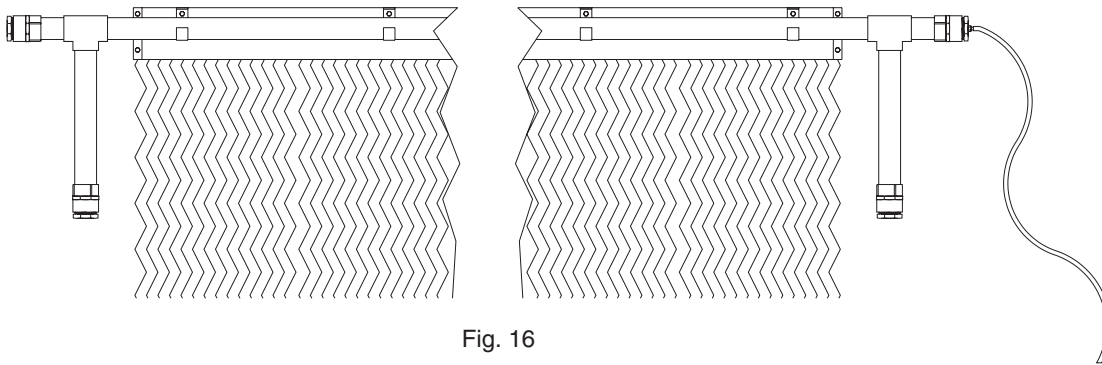

Fig. 16
- Apply PVC cement on the pipe and one end of the Tee fitting and push the Tee all the way on the pipe (see Fig. 16).
- Cut the 4'8" (1.42 m) length of pipe into two 2'4" (.711 m) lengths. Remove burrs and apply PVC cement to the bottom leg of the tee and one end of the PVC pipe. Insert the pipe into the tee as shown in Fig. 16.